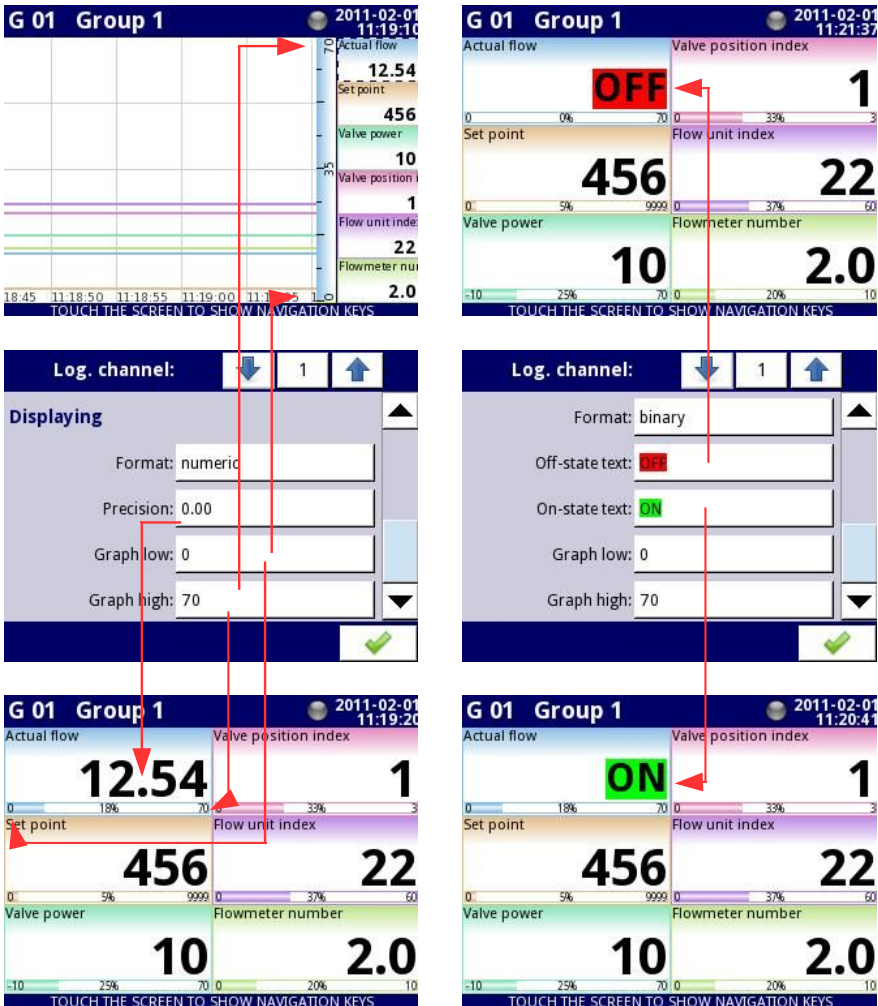

Fig. 7.39. Input channels menu – 2 different kinds of Displaying parameters
- **Precision** – this parameter occurs when **Format** parameter is set as **numeric** or **time**, which specifies the precision to be displayed on the output value (see Fig. 7.39),
- Graph low** - minimum range value for graphs, bars, needle dials and percentage bars (see **Fig. 7.39**),
- Graph high** - maximum range value for graphs, bars, needle dials and percentage bars (see **Fig. 7.39**),